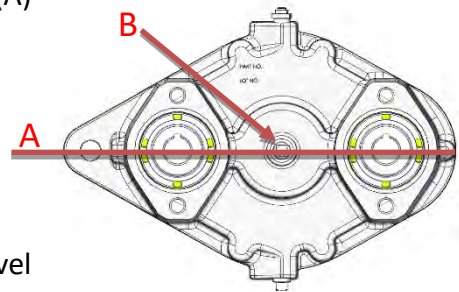

Figure 11-2: Gearbox Oil Level
Gearbox oil levels should be checked routinely and filled to line (A) or 1 Quart (0.95 Liters) as shown in Figure 11-2.